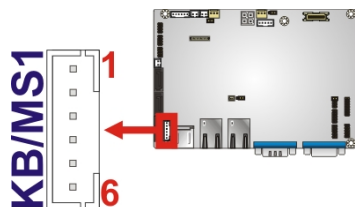

Figure 3-6: Keyboard/Mouse Connector Location
- CN Location:** See Figure 3-6